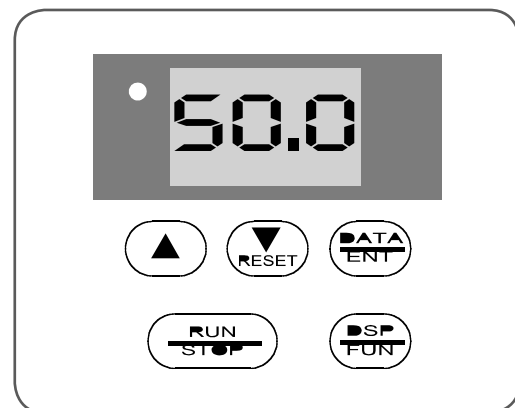

fig 21
1. Press DSP/FUN button to display F06. (Fig. 21)